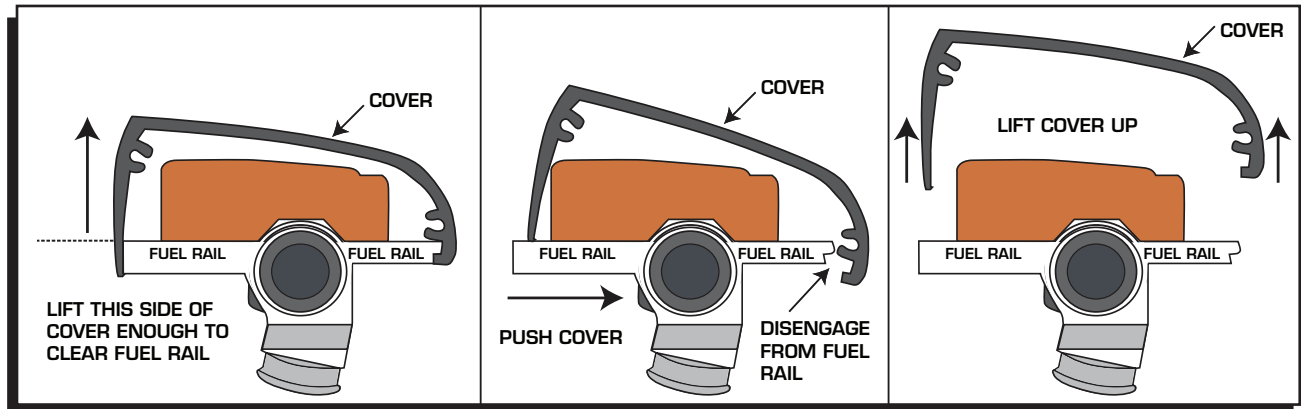

Figure 1
1. Lift the rounded end of the rail cover off of the fuel rail (Figure 1).